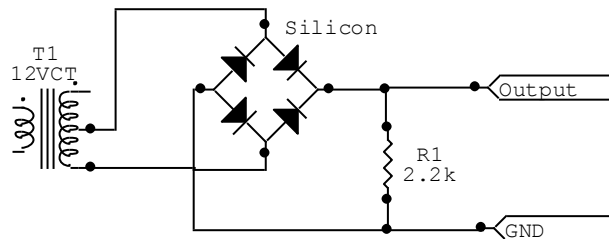

Figure 4.3
4. Construct the circuit of figure 4.3. Obtain your input signal  $V_{in}$  from the output of the transformer provided.
2. On the two separate graphs of figure 4.3 sketch the input voltage,  $V_{in}$  and the output voltage  $V_{out}$ . Also note the vertical and horizontal sensitivity.